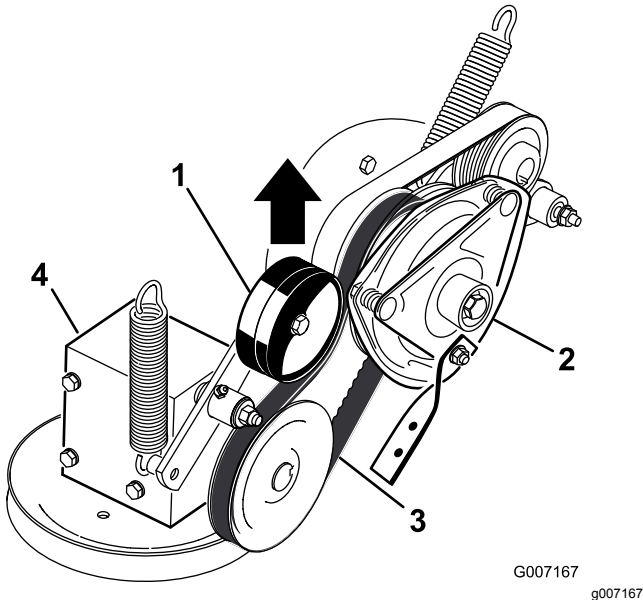

Figure 65
5. Pull up on the spring-loaded idler pulley for the PTO-drive belt and remove the belt from the clutch pulley (Figure 65).
17. Pull up on the spring-loaded idler for the PTO-drive belt and install it onto the clutch pulley (Figure 65).